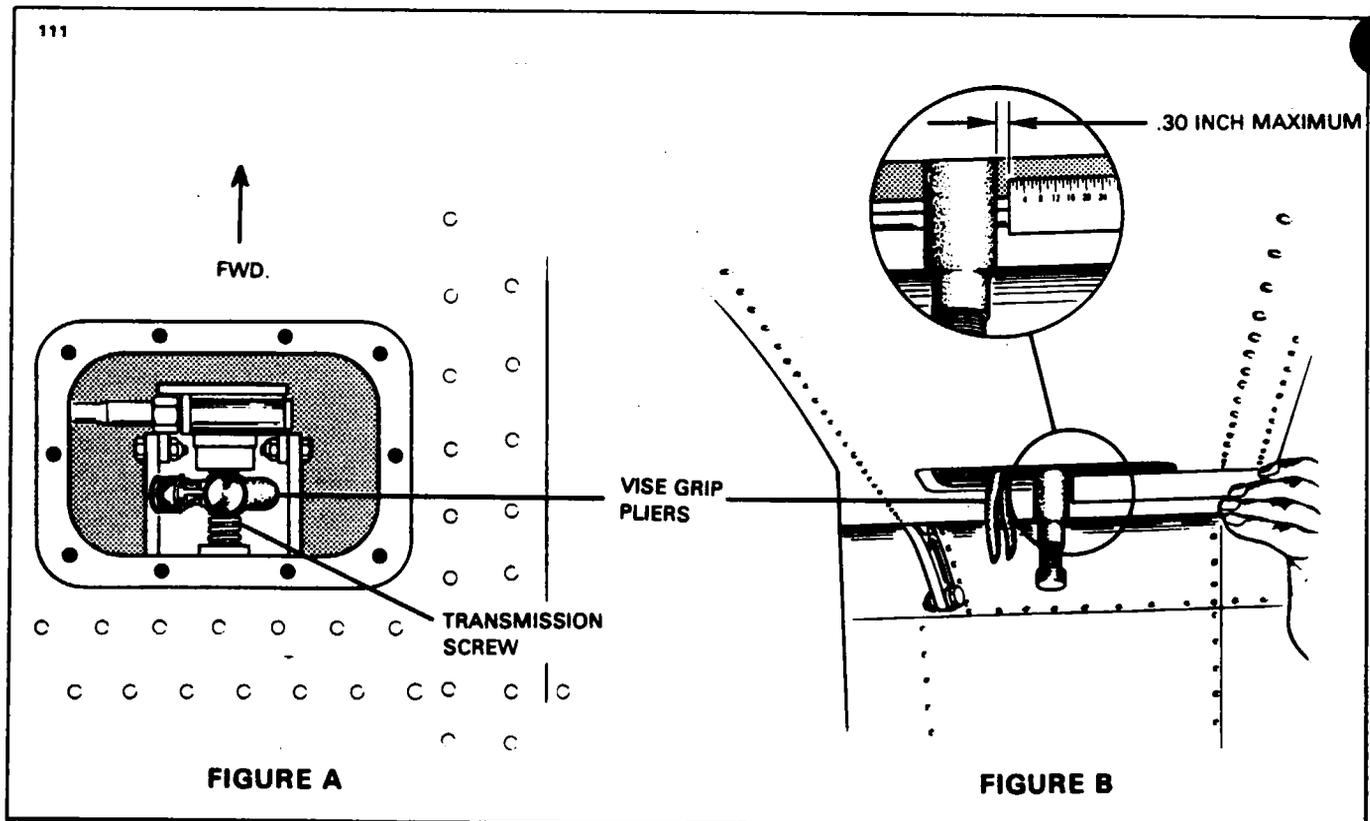

Figure 27-26. Wing Flap Transmission Inspection
**INSPECTION OF WING FLAP TRANSMISSION. (Refer to Figure 27-26.)**